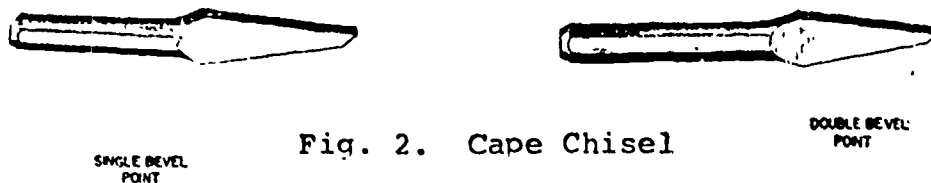

Fig. 2. Cape Chisel
b. Cape Chisel: The cape chisel (Fig.2) has a narrow cutting edge and is used mostly for cutting narrow grooves and key ways. It is widest at the cutting edge to keep the chisel from sticking in the grooves and maybe breaking.